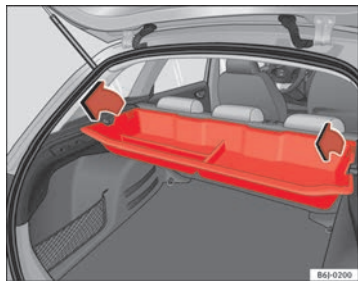

Fig. 94 Removing storage compartment
- Remove the rear shelf and pull the storage compartment upwards holding it by the edges ⇒ fig. 94.